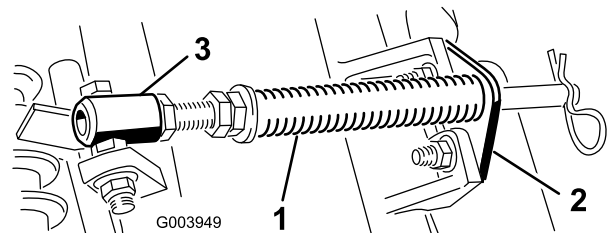

**Figure 9**
5. Make sure that the counter weight (Figure 9) is installed to the proper end of the cutting unit as described in the cutting unit *Operator's Manual*.